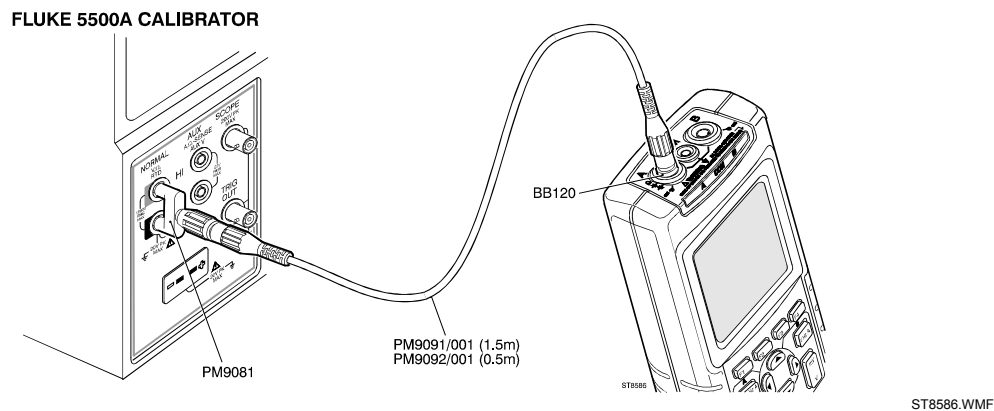

Figure 4-4. Test Tool Input 1 to 5500A Normal Output
1. Connect the test tool to the 5500A as shown in Figure 4-4.